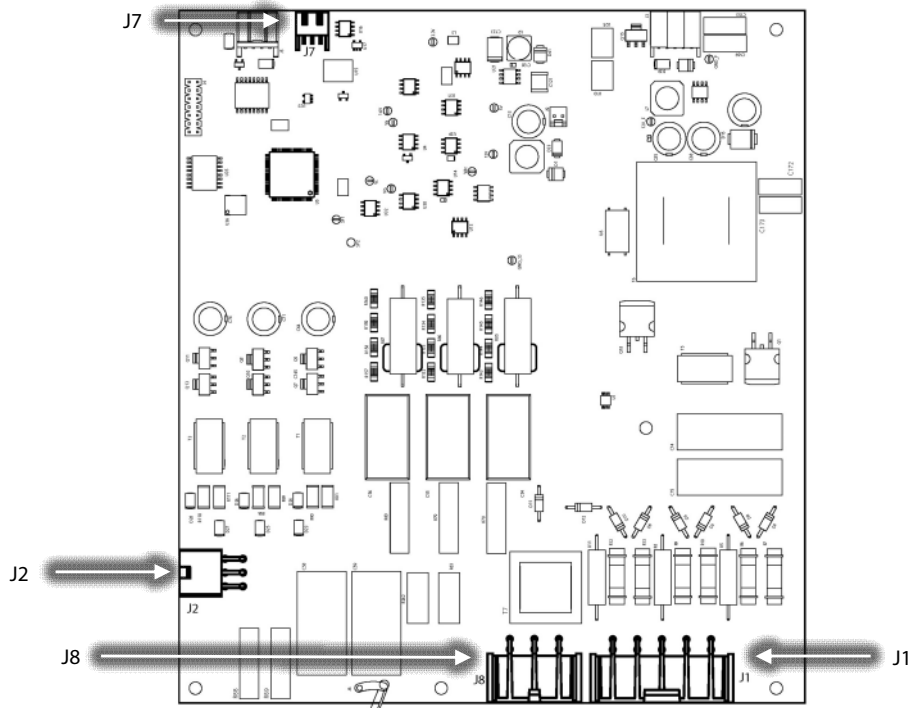

Figure 22 – Open-Top Soft Start Connections
4. Connect the Soft Start Temperature Sensor Harness to the Soft Start. The connector is now J7 on the Open-Top Soft Start but was formerly J9 on the old Soft Start. Refer to Figure 22 – Open-Top Soft Start Connections for locations of all connectors used in this instruction.